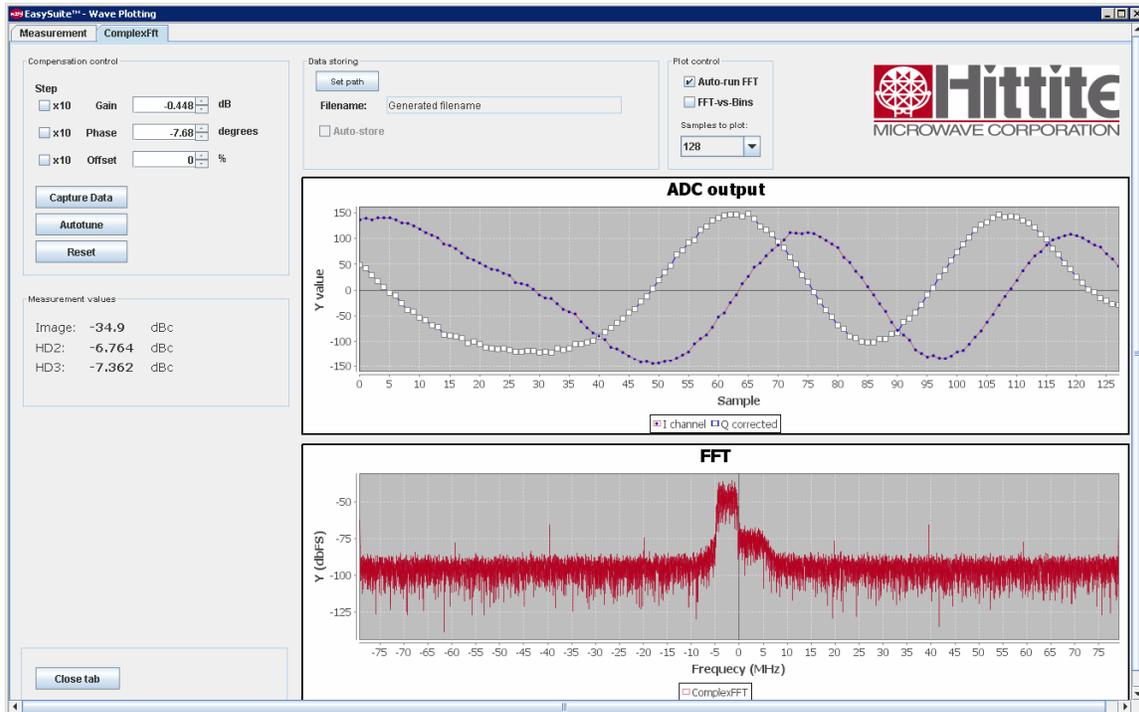

Figure 44. EasySuite image rejection result after manually entering previously calculated amplitude calibration values
25. Then manually entering the remembered amplitude (-0.448 dB) and phase (-7.68 degrees) mismatch in the 'Compensation control' menu of 'ComplexFft' tab of EasyView, Figure 44 is generated, illustrating that previously calibration is valid across independent set of data.